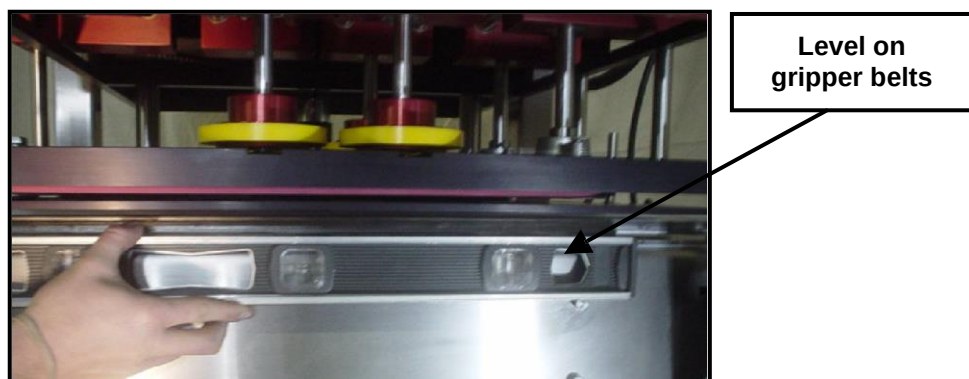

Figure 10. LEVEL THE GRIPPER BELTS FROM SIDE TO SIDE.
- 3d.** Make sure the gripper belts are level from side to side by placing a level across the top of the gripper belt assembly. Refer to Figure 10.